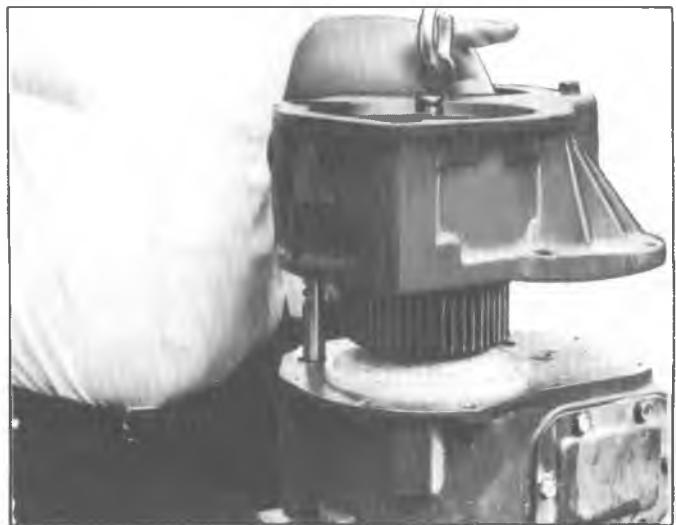

Fig. 7B-10S--Removing Intermediate (Chain) Housing
**NOTE:** Refer to figure 7B-12S for exploded view of subassemblies.
### Differential Carrier Assembly (Fig. 7B-12S)